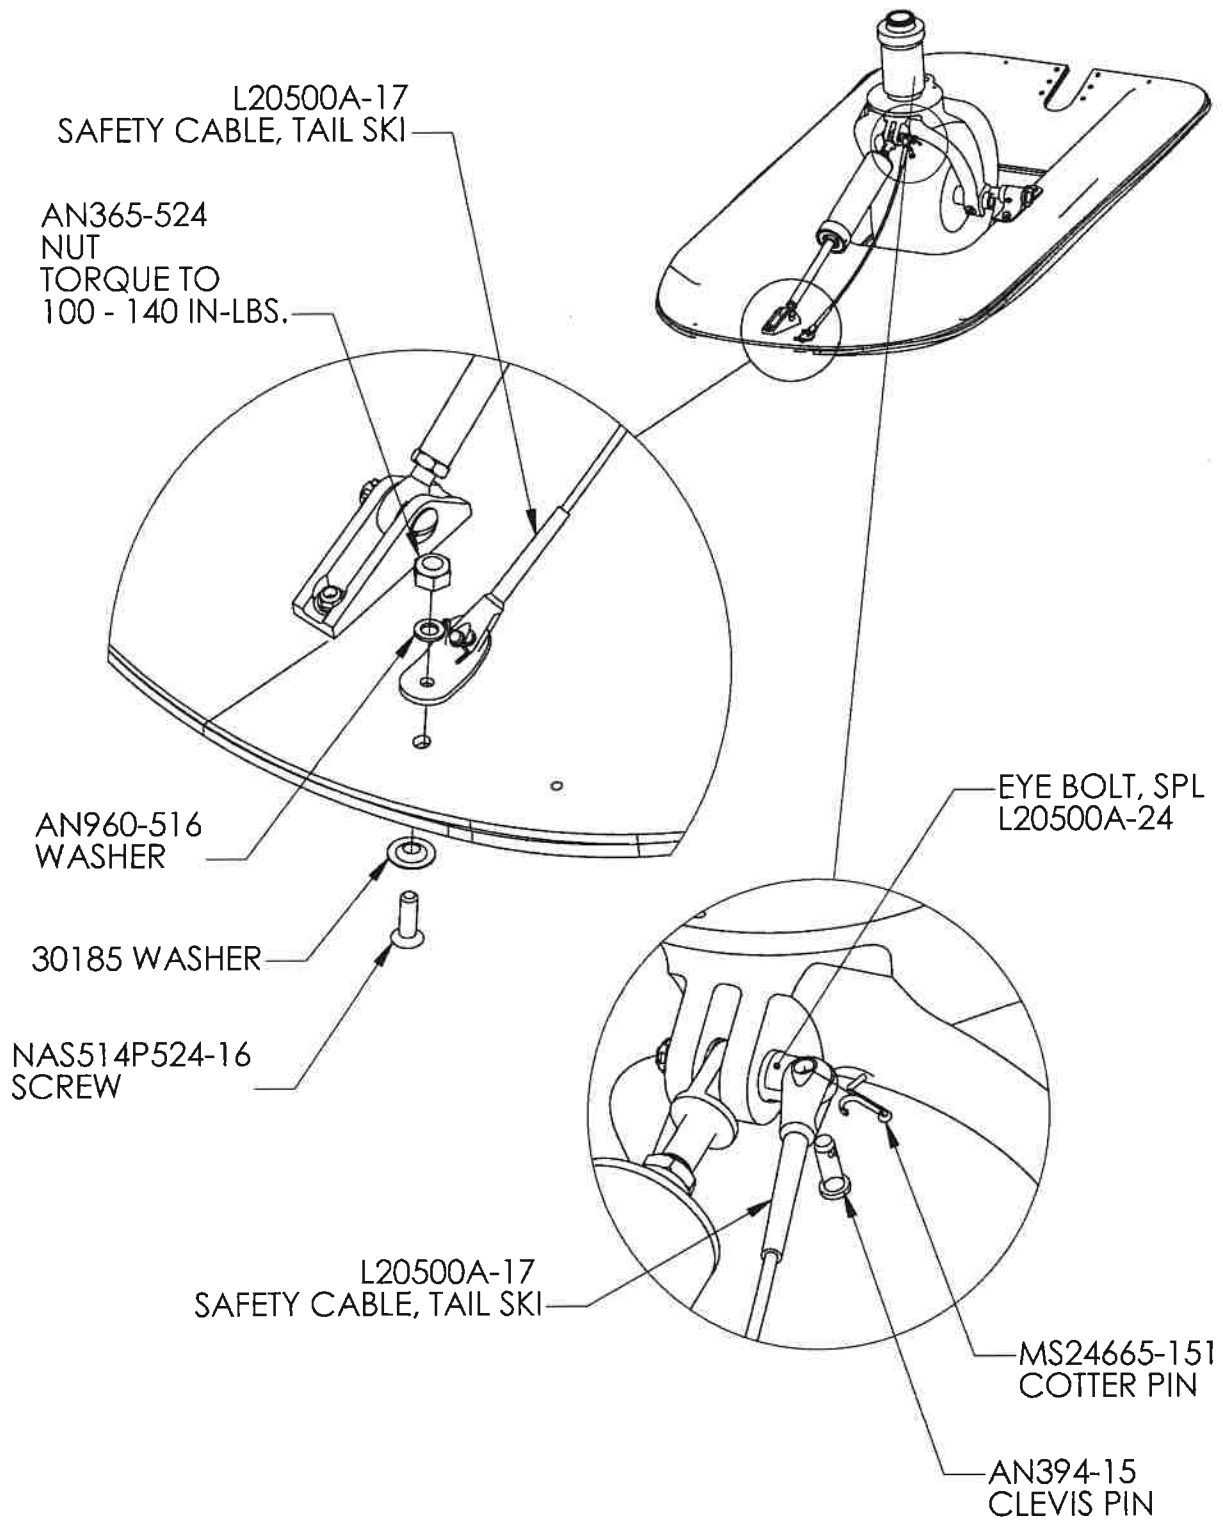

Figure 6.3
34. Install Safety Cable Tail Ski (L20500A-17) onto Tail Ski using Washer (30185), Screw (NAS514P524-16), Washer (AN960-516) and Nut (AN365-524). *See Figure 6.3* TORQUE VALUE
35. Attach upper portion of Safety Cable to Eye Bolt (L20500A-24) using Clevis Pin (AN394-15) and Cotter Pin (MS24665-151). *See Figure 6.3*